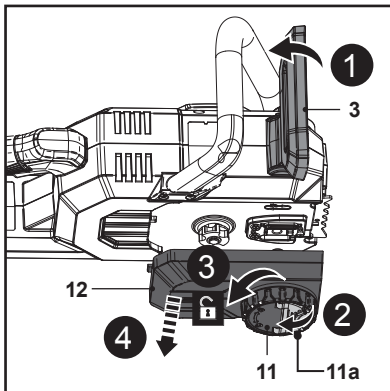

Fig. 1
**WARNING!** PULL THE FRONT SAFEGUARD (CHAIN BRAKE LEVER) (3) FULLY BACKWARD TO DISENGAGE THE CHAIN BRAKE.
2. Pull the front safeguard (chain brake lever) (3) fully backward to disengage the chain brake (Fig. 1, step 1).
3. Flip the locking ring (11a) up and hold it, unscrew the locking wheel (11) anticlockwise and then remove it together with the chain saw cover (12) (Fig. 1, steps 2, 3, 4).